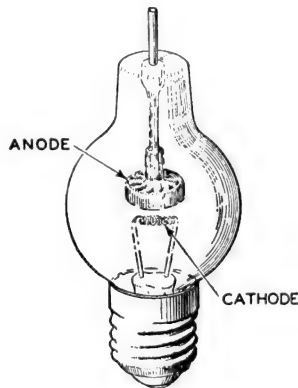

Fig. 13. Tungar or Rectigon Rectifier Bulb
**Charging Batteries by Means of Rectifying Bulbs.** A rectifying bulb, resembling the ordinary light bulb, contains a low-voltage filament called the *cathode*, Fig. 13, and also a plate electrode called the *anode*; the bulb is completely filled with an inert gas, *Argon*, which is the rectifying medium. When the filament in this bulb